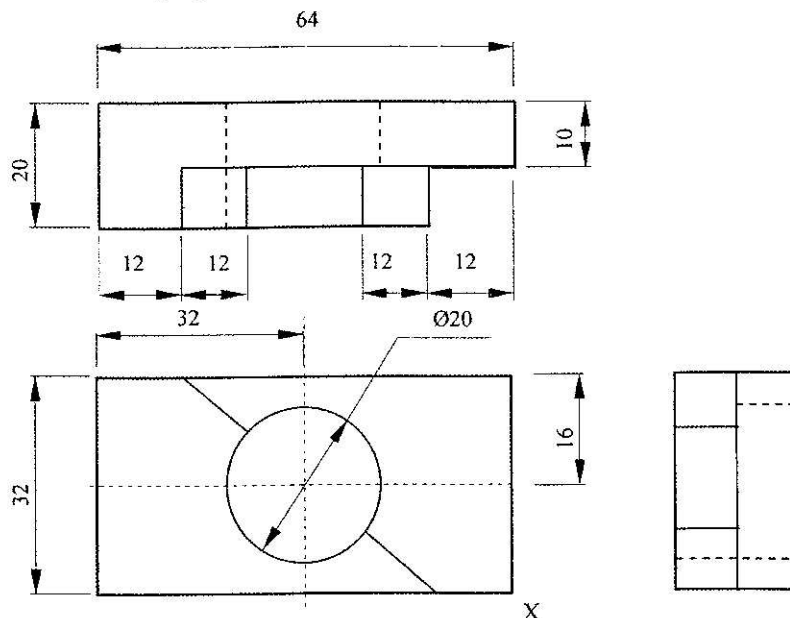

Figure 2
- 11 Figure 2 shows orthographic views of a machined block drawn in third angle projection.